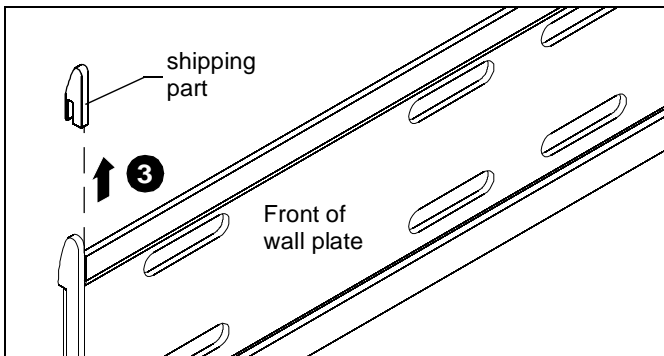

Figure 1
3. Remove and discard two plastic shipping parts from the wall plate (one from each end). (See Figure 1)
4. Using wall plate as template, mark and then drill four or six (for triple-stud mounting) 3/16" diameter pilot holes through mounting surface making sure the holes are centered in the middle of each stud. Holes must be drilled at least 2-1/4" deep. (See Figure 1)
5. Install four or six connector screws (D) through wall plate and into pilot holes using M4 Allen Head bit (CC). (See Figure 1)